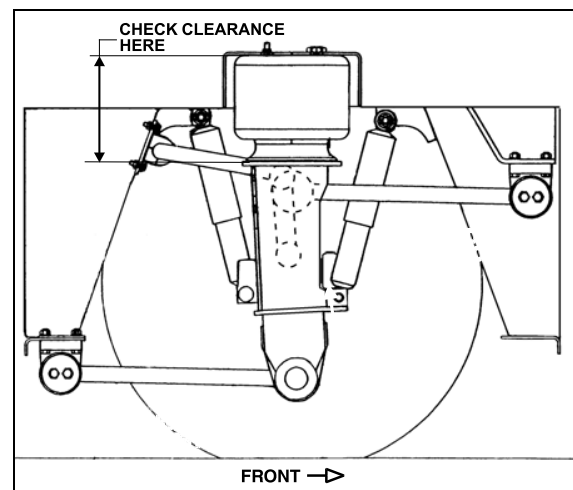

FIGURE 14: TYPICAL AIR SPRING CLEARANCE 16108
The appropriate vehicle body height is obtained by measuring the clearance of all the air springs installed on the front and drive axles. The clearance should be $12 \pm \frac{1}{4}$ " (305 ± 6 mm) for the air springs installed on the front axle and $11\frac{1}{2} \pm \frac{1}{4}$ " (292 ± 6 mm) for those installed on the drive axle. Refer to figure 14 to identify the correct location where the measure has to be taken. At this point, it should not be necessary to make an adjustment under normal service conditions. However, if an adjustment is required, change the position of the overtravel lever in relation to the overtravel control body. The lever should be moved up to raise the height of vehicle and down to lower it. Check that main
1. With the vehicle at normal operating air pressure, check the air spring clearance as illustrated in figure 14. This clearance should be $12 \pm \frac{1}{4}$ " (305 ± 6 mm) for the front axle air springs and $11\frac{1}{2} \pm \frac{1}{4}$ " (292 ± 6 mm) for those on the drive axle.
Note: The measure should be taken from under the upper air spring support on subframe to top of the lower air spring support on axle (refer to fig. 14 for more details). If adjustment is required, begin with the drive axle.